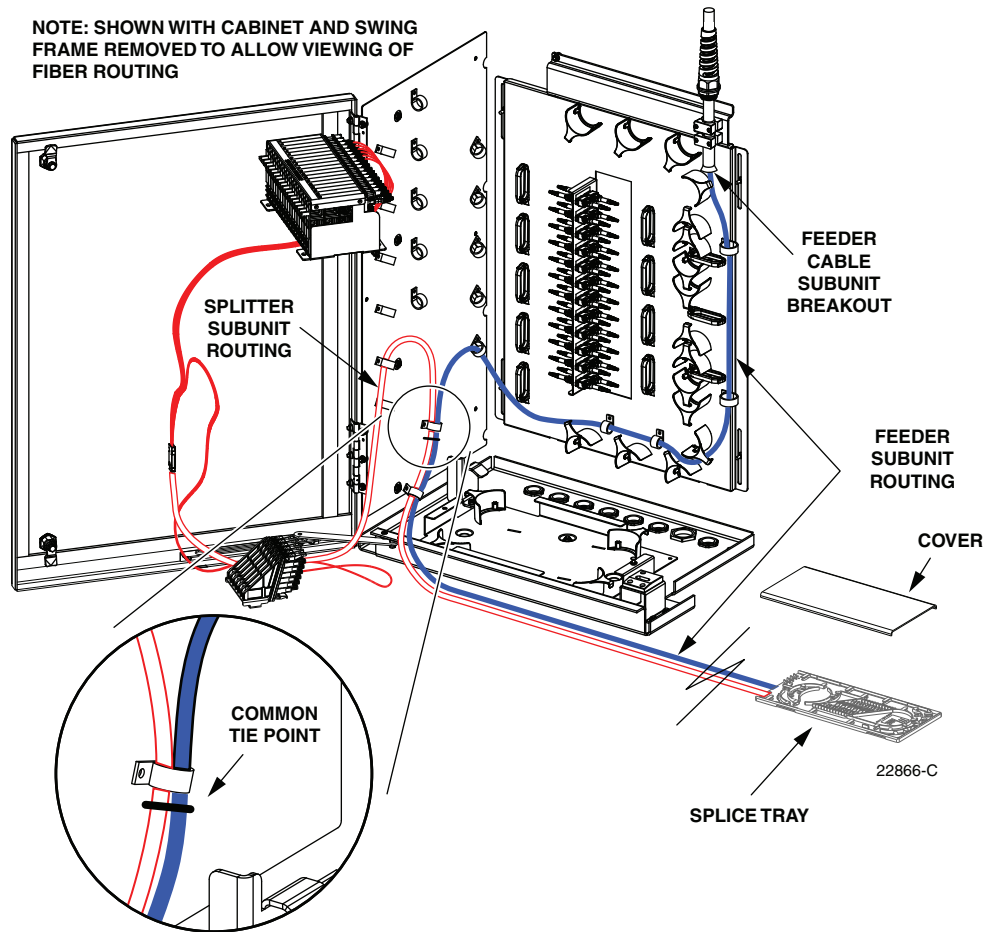

Figure 26. Feeder Fiber Routing To Splice Tray - Stranded Cable
4. Beginning at the feeder cable subunit breakout point shown in Figure 26, route the feeder cable fibers to the intersect point with the splitter fibers.